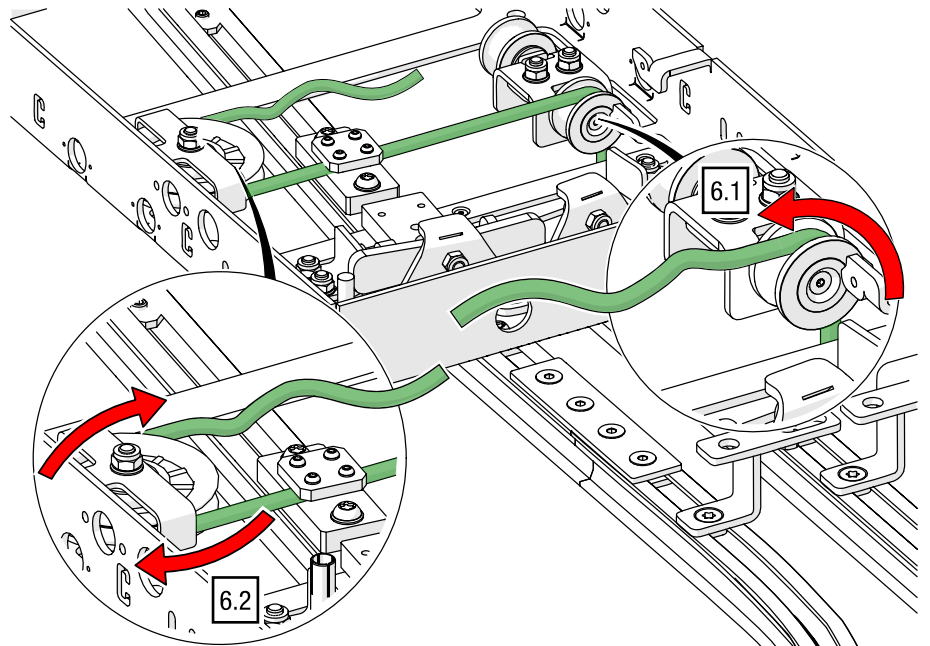

Fig. 135: Track switch – Guide the cord upwards and through the return pulley
6. Guide the polyester cord upwards (1) over the head pulley, through the loosened clamping plate and through the return pulley (2; see Fig. 135).